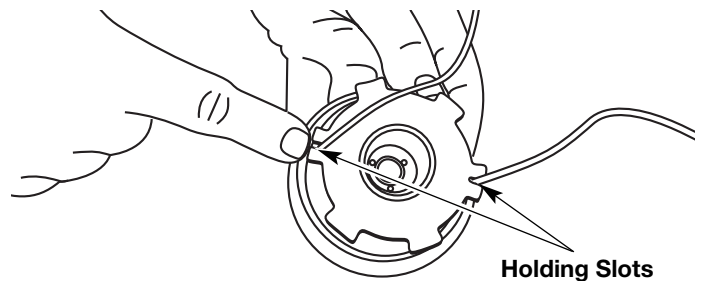

Fig. 23
- Insert the ends of the line into the two holding slots (Fig. 23).